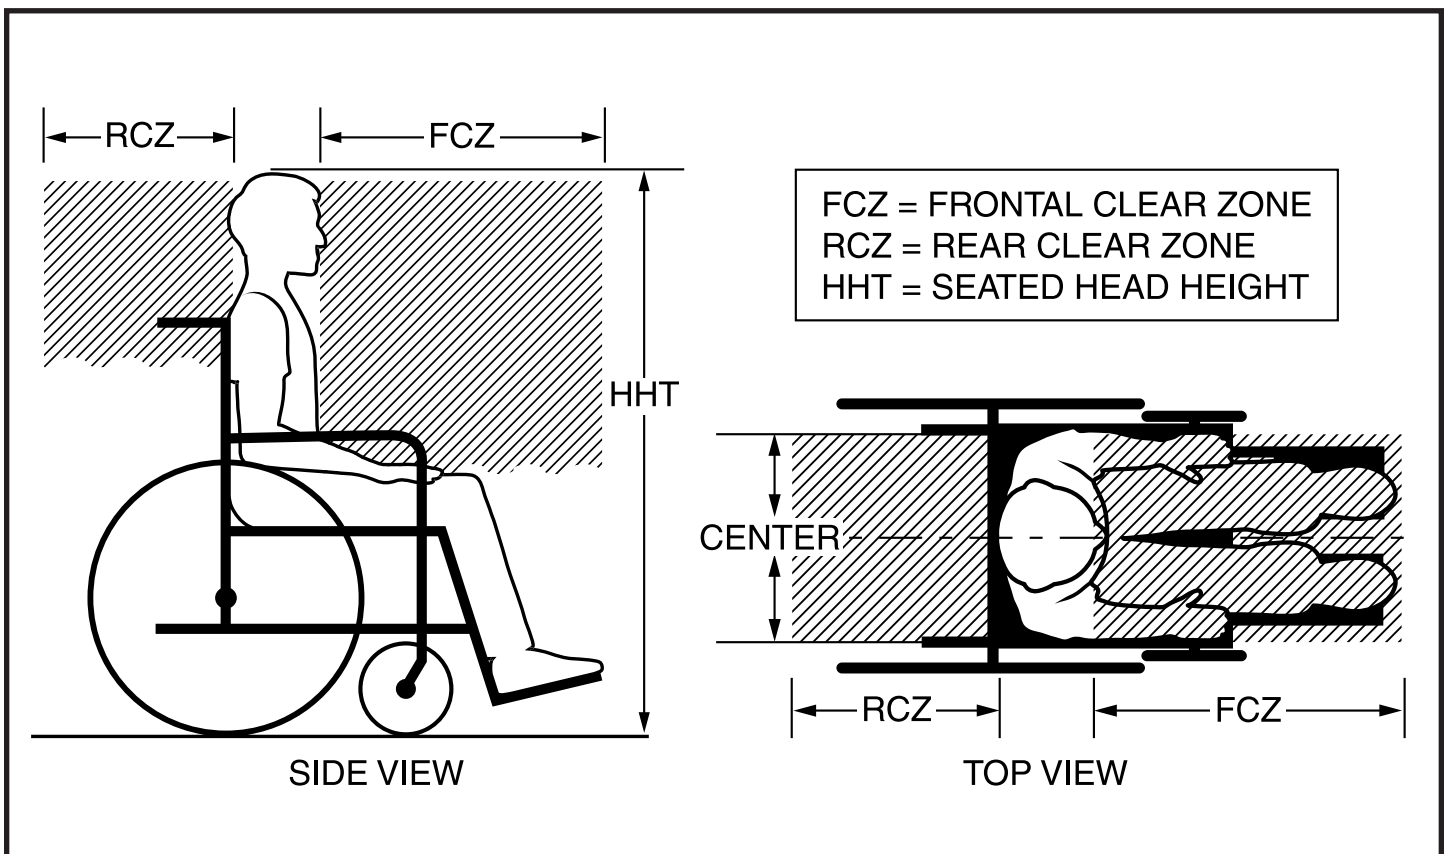

Figure 14. Recommended Clear Zones for Power Chair-seated Occupants
- The frontal clear zone (FCZ) is measured from the forwardmost point on the occupant's head and should measure at least 26 in. (65 cm) if both a pelvic and upper-torso belt are used. **See figure 14.**
- The rear clear zone (RCZ) is measured from the rearmost point on the occupant's head and should measure at least 16 in. (40 cm). **See figure 14.**
- The seated head height (HHT) ranges from about 47 in. (120 cm) for a small adult female to about 61 in. (155 cm) for a tall adult male. **See figure 14.**